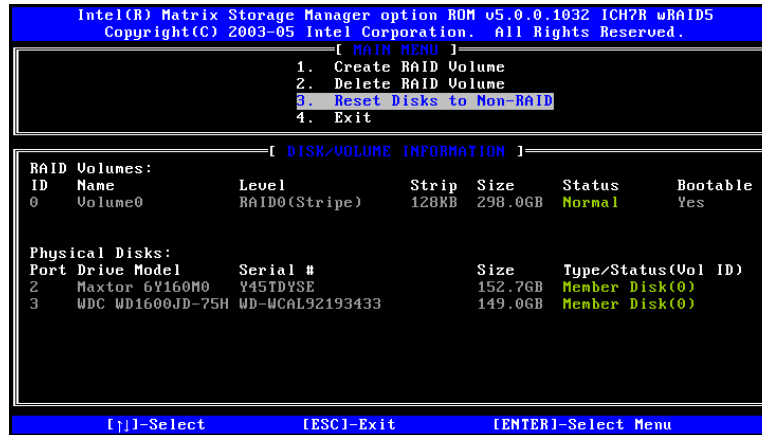

Figure E-12: Reset Disk to Non-RAID Menu
Step 1: Select “Reset Disk to Non-RAID.” Use the arrow keys to highlight **Reset Disk to Non-RAID** and press **ENTER**. See Figure E-12.